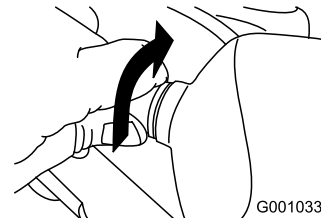

Figure 59
2. Turn the base of the bulb counterclockwise until it stops (Figure 59).